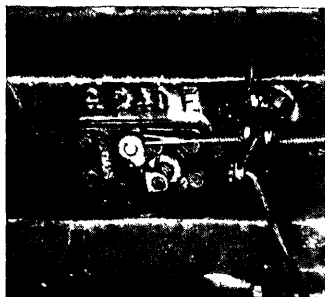

Fig 1
**Heat Manifold Control.**—On the late models check the heat manifold control (Fig. 1) to see that